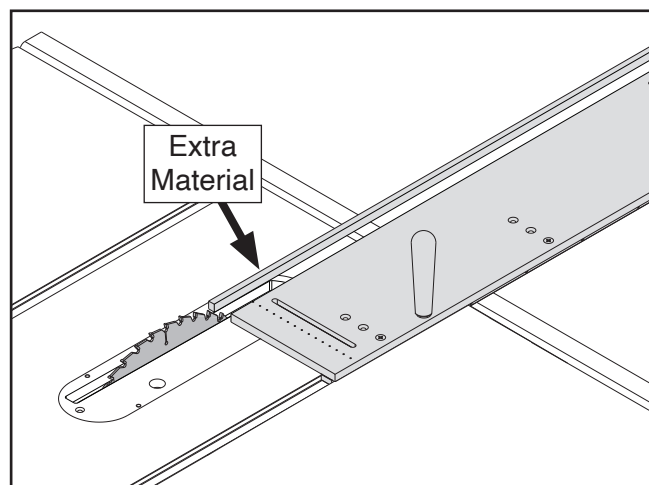

Figure 10. Extra material cut from jig base (blade guard removed for clarity).
17. Using tapered knob, feed jig forward all the way through the blade while maintaining steady forward and downward pressure on jig to cut extra material from jig base (see **Figure 10**).